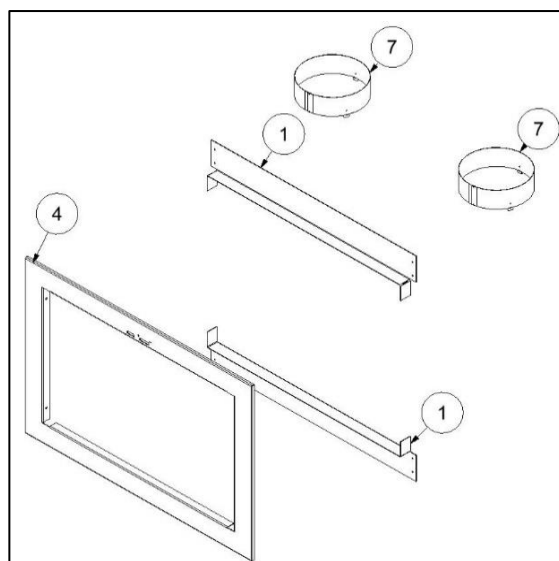
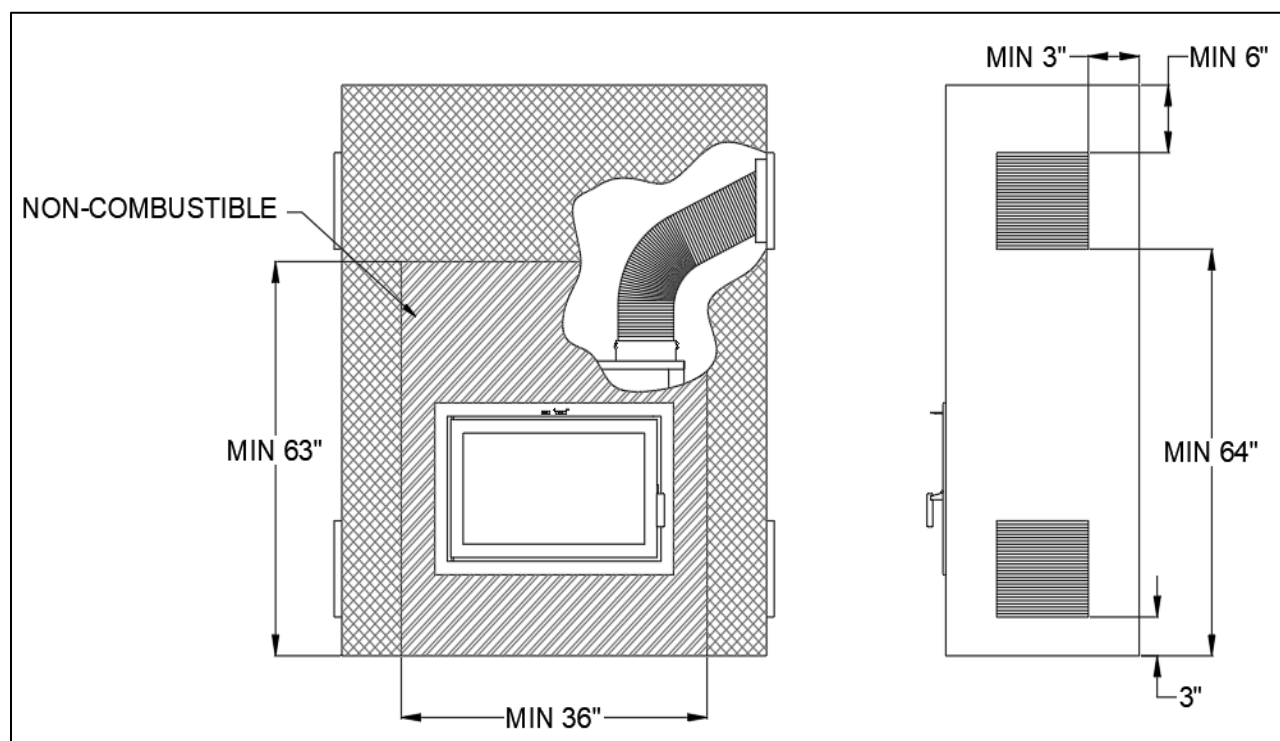

Figure 3-14: Clean Face Surround Components
Figure 3-21: Clean Face Astra 24 Chase
The Clean Face surround comprises no louvers; however, an intake into the chase and an outtake through gravity ducts is required for this configuration. The instructions below describe the installation of the Clean Face surround. Refer to Figure 3-14 Table 3-3 for the instructions below. Refer to Section 3.4 for Gravity Kit installation instructions.
4. Place the surround (Item 4 in Figure 3-14) within the door holder and secure it in place with 4 black screws (one on each corner). Make sure that the handles of the Combustion Air Control pass through the slots of the surround.
1. Remove the two 8" knockouts (2) at the top of the unit using a flat head screwdriver.
3. Install the 8 inch flange adapters (Item 7 in Figure 3-14) through the newly cut knockouts and fasten them to the top of the unit. Make sure to bend the tabs of the adapters before installation.
4. Determine the two locations of the air intakes on the chase and cut a rectangular opening 10.5" (W) X 9.5" (H). Note that a distance of 3" is required from the floor.
5. Determine the two locations of the air outtakes on the chase and cut a rectangular opening 10.5" (W) X 9.5" (H). Note that a minimum distance of 64" is required from the floor and a minimum of 6" is required from the ceiling (Figure 3-21). Please note that the air outtake grilles can be installed in the same room or in different rooms from each other. If the grilles are installed at different heights, more heat will be distributed to the highest one.
- Refer to Figure 3-21 for clearances to combustibles.
For the Clean Face surround option, two intake and two outtake openings must be constructed onto the chase. Refer to Figure 3-21 for minimum clearances.